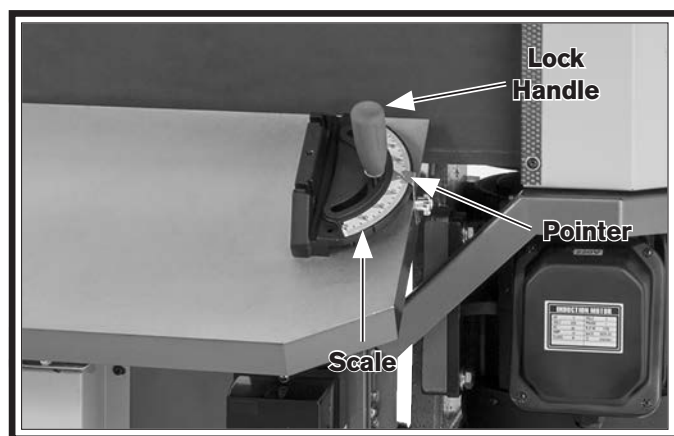

Figure 43. Main table miter stop.
The main table has a stationary miter stop (see **Figure 43**) that is used to support the workpiece at various angles against the sanding belt.
1. Loosen lock handle shown in **Figure 43**.
2. Rotate miter stop to until pointer on scale indicates desired angle (see **Figure 43**).